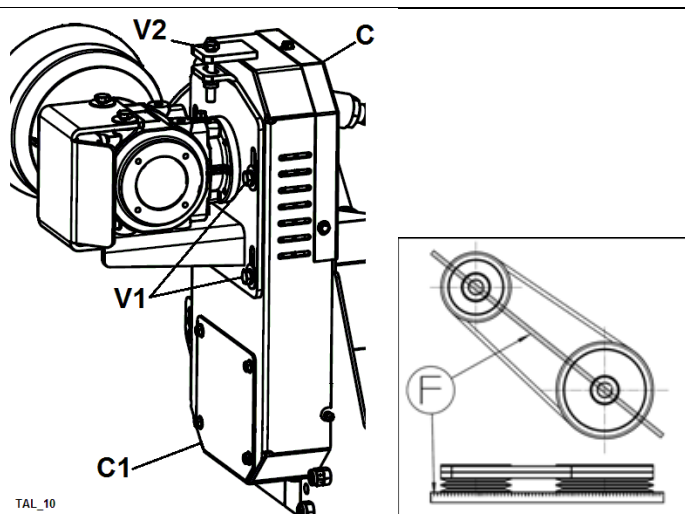

Figure 52
To replace the belts, proceed in the following way. Refer to figure 52:
5. Support the new rubber fabric sheet G in support F, taking care to position it well in its housing. Pierce the rubber at the holes T (figure 74);  Figure 52